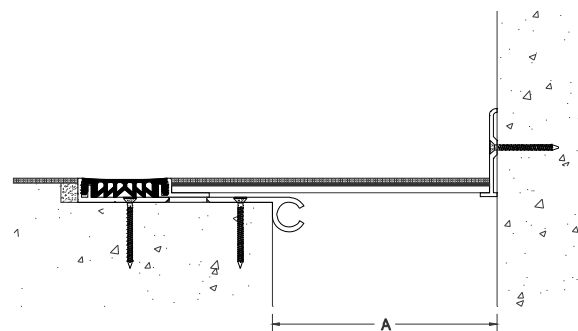

Figure 15
**STEP 18.** Install the finish floor material onto the floor at this time, see Figure 15. Install finish floor material in accordance with the instructions provided by the finish floor material manufacturer.